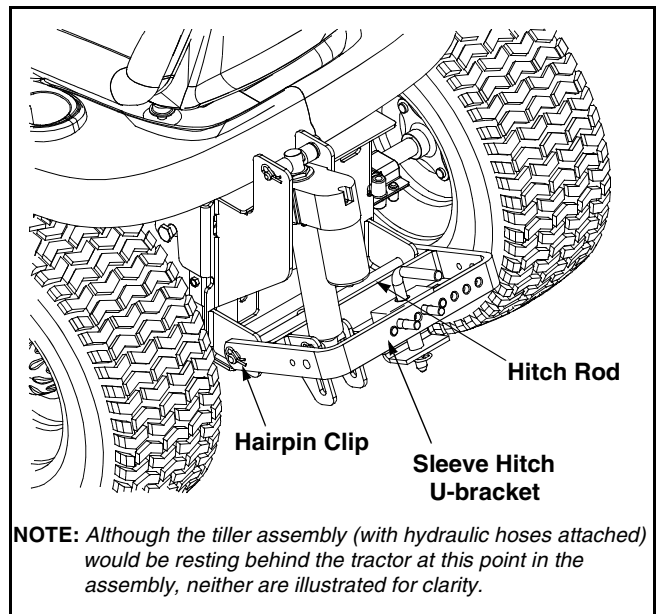
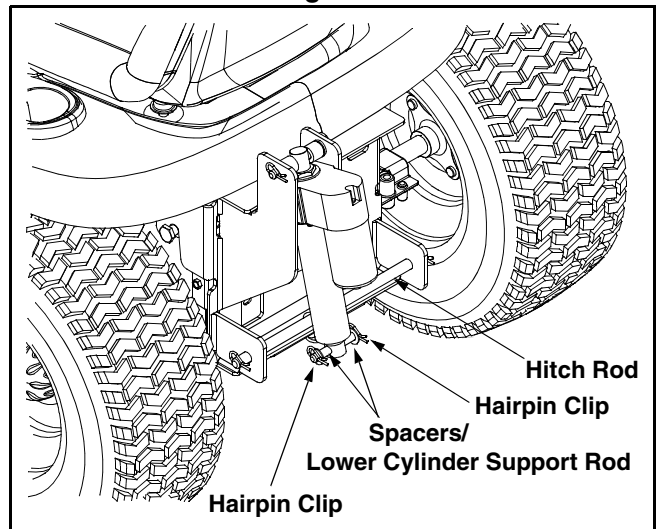

Figure 7
Figure 8
Note how the electric sleeve hitch cylinder shaft is attached to the sleeve hitch U-bracket (refer to Figure 7 & Figure 8) before proceeding on to the first step below. Upon completing the following steps, the tiller assembly will be attached to the sleeve hitch cylinder shaft in the exact same manner.
- Remove the two hairpin clips securing the hitch rod to the sleeve hitch U-bracket. Do NOT, however, remove the hitch rod yet. This will be done in following steps. See Figure 7.
- Remove the two washers and two hairpin clips (Not visible in Figure 7, Refer to Figure 8) securing the lower cylinder support rod to the sleeve hitch assembly.
IMPORTANT: Be careful not to lose the two spacers (Refer to Figure 8) found on the lower cylinder support rod.
- Reinsert the hitch rod back into the holes in the sleeve hitch bracket and secure it with the hairpin clips removed earlier. See Figure 8. Do NOT reinsert the lower cylinder support rod yet. This will be done in later steps.